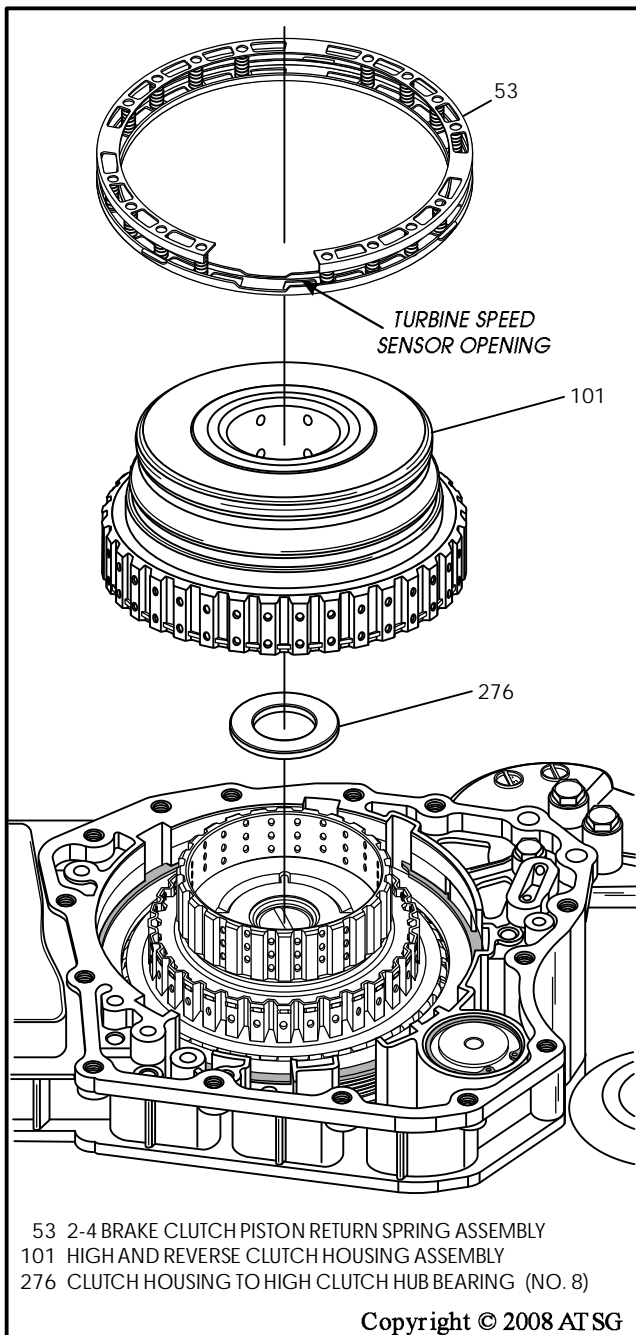

Figure 204
33. Ensure that number 8 thrust bearing is still in place in the high and reverse clutch housing, as shown in Figure 204.
34. Install the high and reverse clutch housing, as shown in Figure 204, by rotating it back and forth until fully seated.
35. Install 2-4 brake clutch return spring assembly, as shown in Figure 204, with opening for the turbine speed sensor positioned as shown.